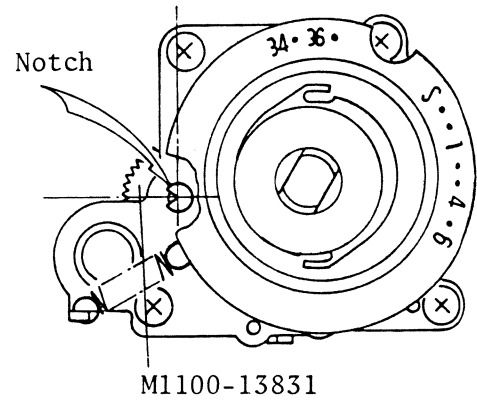

Fig.23
D. Determining M1100-13831 film counter advance gear (Fig. 23)
1. Before installing M1100-13801 film counter base plate unit determine notch of the advance gear as shown in Fig 23.